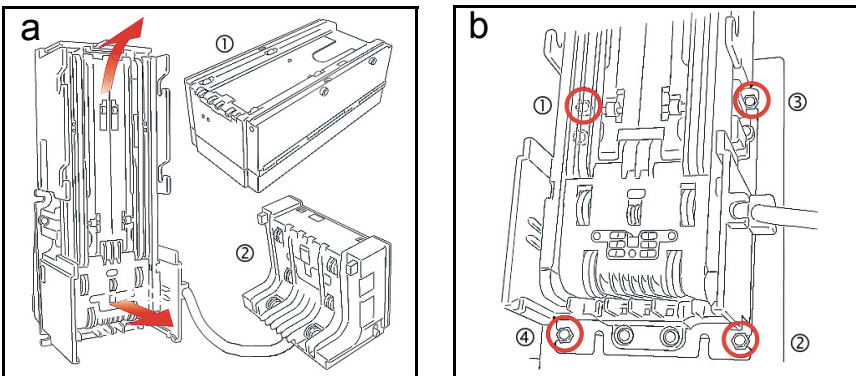

Figure 4 Cash Box Removal & Mounting Nut Tightening Diagrams
2. Remove the Cash Box and release the Lower Sensor Assembly as shown in Figure 4 a① and a②.
3. Mount the Bill Validator into the equipment using four # 8-32 nuts. Mounting nut locations are shown in Figure 4 b ① to ④. Tighten the mounting nuts until snug. Do not over tighten!